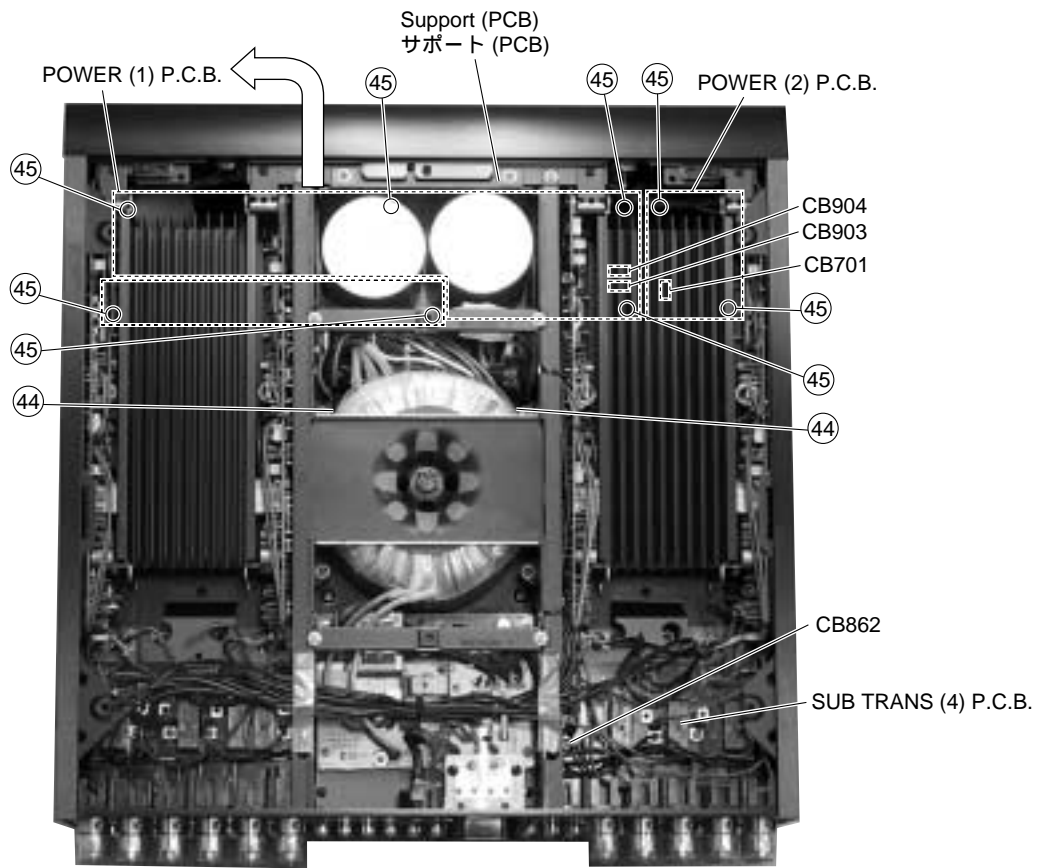

Fig. 19
13. Removal of POWER (1) P.C.B. & POWER (2) P.C.B.
- Remove the SUB TRANS (3) P.C.B. (See procedure 10)
- Remove 2 screws (④④) and then remove the Support (PCB). (Fig. 19)
- Remove 8 screws (④⑤). (Fig. 19)
- SUB TRANS (4) P.C.B.(Fig. 19)
- POWER (1) P.C.B.(Fig. 19)
- POWER (2) P.C.B.(Fig. 19)
- Remove the POWER (1) P.C.B. and the POWER (2) P.C.B. (Fig. 19)
13. POWER (1) & (2) P.C.B.の外し方
- SUB TRANS (3) P.C.B.を取り外します。(10項参照)
- ④④のネジ2本を外し、サポート(PCB)を取り外します。(Fig. 19)
- ④⑤のネジ8本を外します。(Fig. 19)